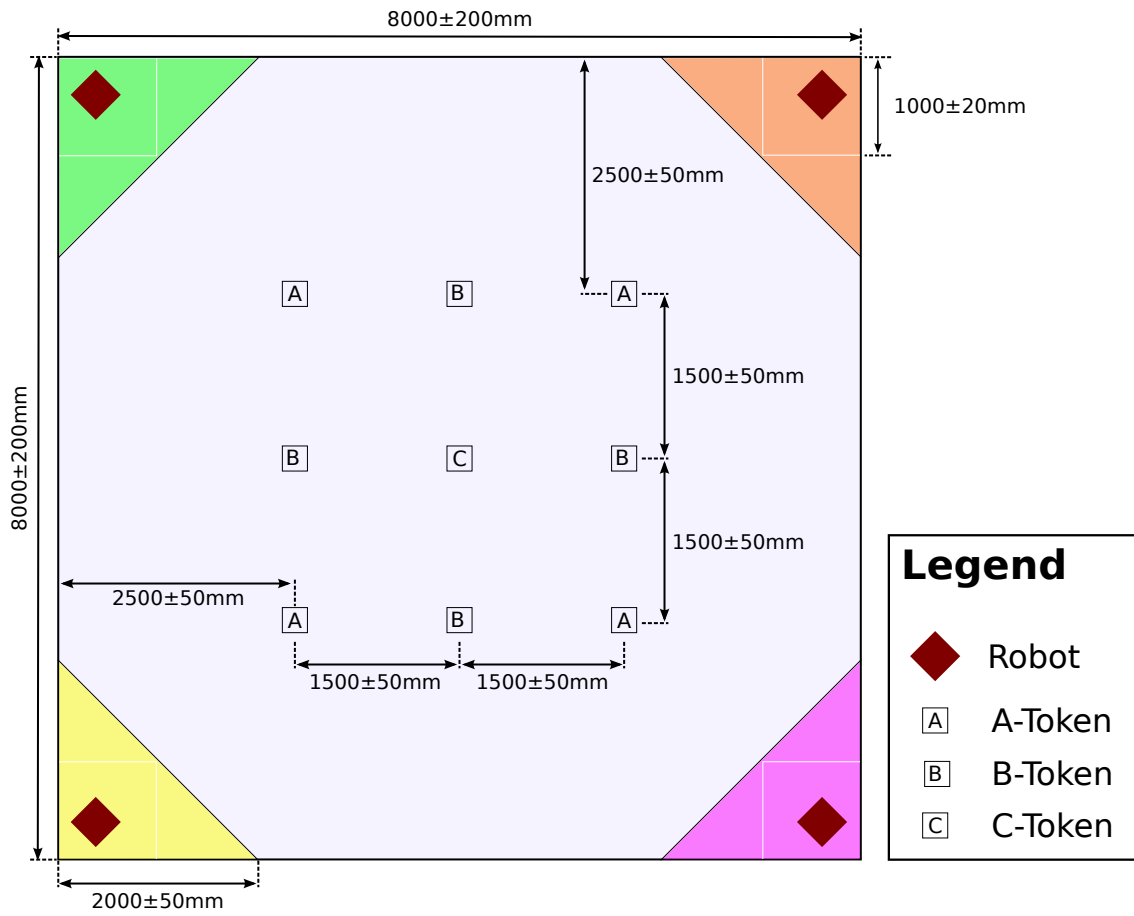

Figure 3: A bird's-eye view of the arena. All dimensions are in millimetres.
- 3.3.1 The match arena floor, overall, is an $8m \times 8m$ square, as shown in figure 3. The tolerance of these two dimensions is $\pm 0.2m$.
- 3.4.1 There are four zones in the arena, one in each of the corners. The arrangement and dimensions of these zones can be seen in figure 3.
- 3.5.2 There will be 9 tokens in the arena: 4 A-tokens, 4 B-tokens and 1 C-token. These will be arranged as shown in figure 3 at the start of a match.